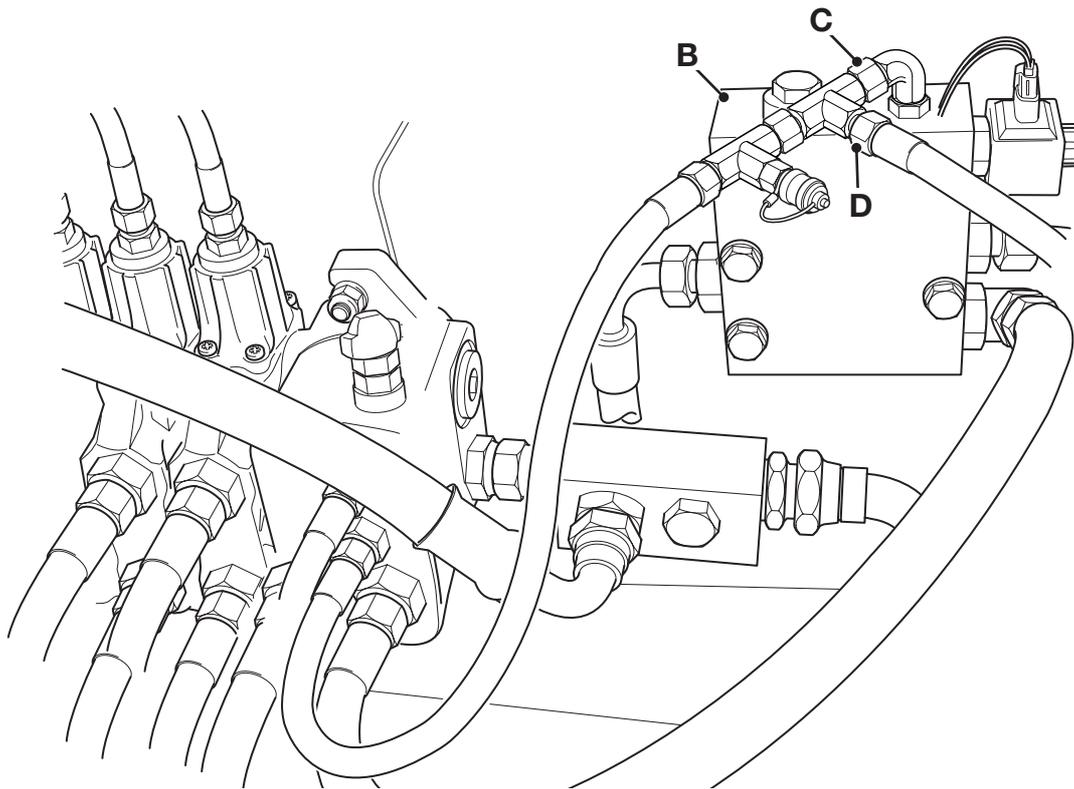

Fig 22. Checking for Internal Leakage Fault in Load Sense Line
- 3 → Fig 22. \(□ L-163\). Isolate the inloader valve **B** from the load sense circuit: